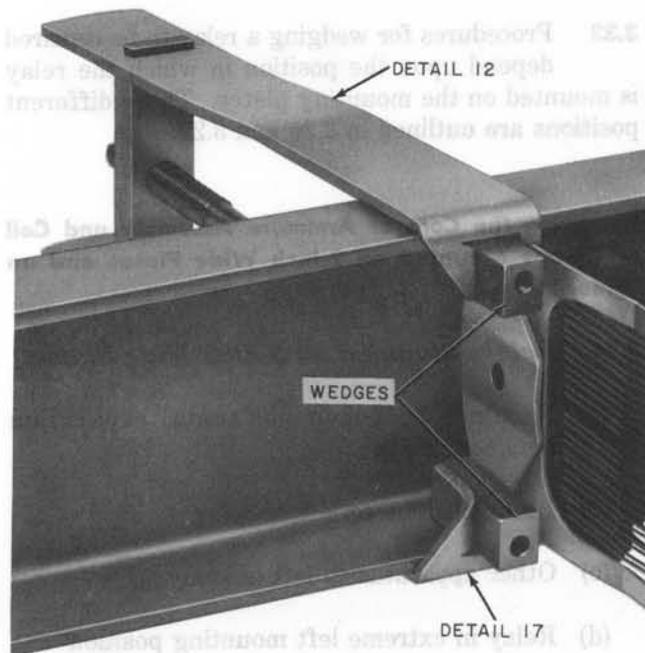

Fig. 18—Wedges in Place
- (b) Use the Detail wedge inserter to force Details 20 to 33 wedges of sufficient thickness to compress the relay clamping spring between the spring and the wedge supports as shown in Fig. 18.